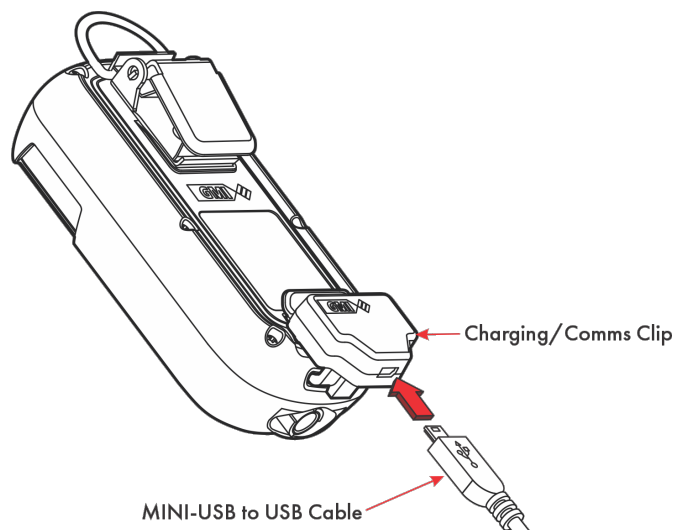

Figure 50: Connect Cable to Charging/Comms Clip
2. Connect the supplied MINI-USB to USB Cable to the Charging/Comms Clip (as shown in Figure 50: Connect Cable to Charging/Comms Clip).